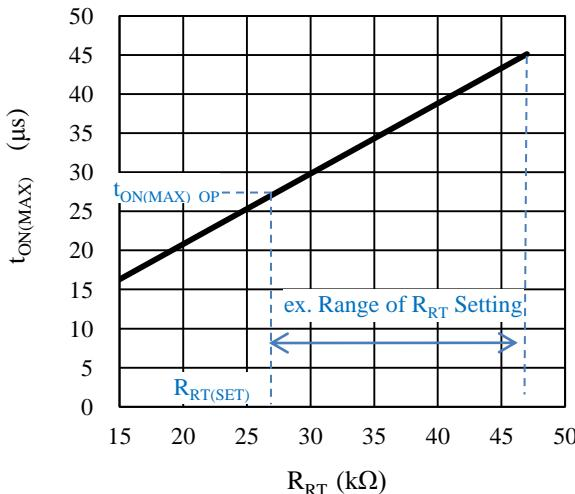

Figure 8-7 $t_{ON(MAX)}$ as a function of R_{RT} (IC design)
Figure 8-7 shows the relation between R_{RT} value and $t_{ON(MAX)}$ in IC design.
The R_{RT} value is set by using the result of $t_{ON(MAX)_OP}$ and Figure 8-7, where $t_{ON(MAX)_OP}$ is the maximum on-time of the peak voltage of the minimum AC input voltage
The value of R_{RT} should set larger than $R_{RT(SET)}$. $R_{RT(SET)}$ is given by $t_{ON(MAX)_OP}$ in Figure 8-7. The range of R_{RT} is 15 k Ω to 47 k Ω . When $t_{ON(MAX)_OP}$ is 16.3 μ s or less, R_{RT} is set 15 k Ω . If $t_{ON(MAX)_OP}$ is 45 μ s or more, R_{RT} is over 47 k Ω . Thus, the setting value of $f_{SW(SET)}$ in Equation (5) is increased and the value of L_p should be calculated again. If the setting value of R_{RT} is too large for $R_{RT(SET)}$, it is necessary to be careful about the audible noise of transformer in the transient operation including startup.